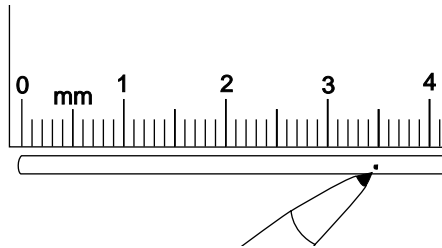

Figure 2
**4.1** Determine the cable strip lengths (i.e., the lengths of jacket to *remove* and aramid yarn to *leave*) from the instructions provided with the connector, mechanical splice, or other fiber optic device you are installing on the cable. Mark this distance on the outer jacket of the cable with a permanent marker (Figure 2).